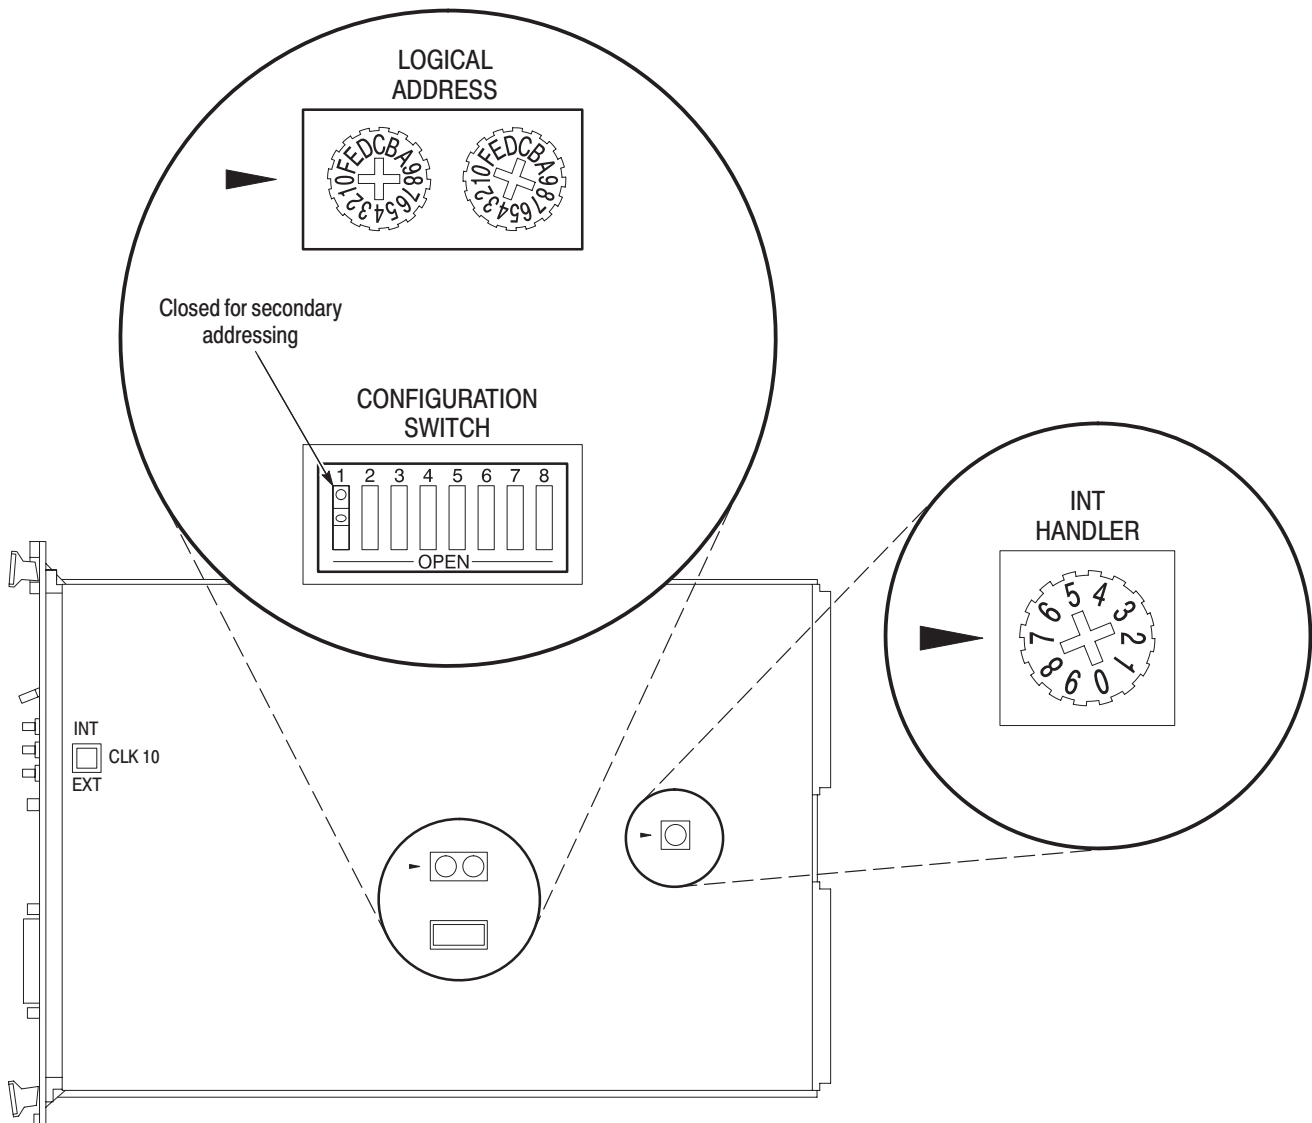

Figure F-1: Setting Switches on the Resource Manager
3. Setup the Slot 0 Resource Manager for operation within this system (Figure F-1):